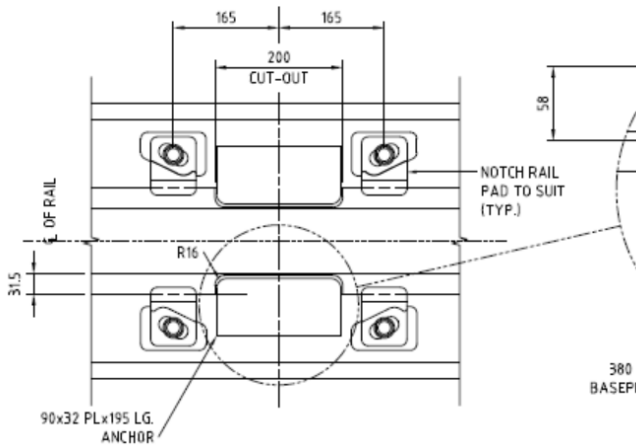

Figure 3: Example of a longitudinal restraint
- Longitudinal restraint - Longitudinal restraint is typically provided to the rail for the transfer of longitudinal loads and to restrict the rail from 'walking' for rails that are able to freely expand and contract due to thermal loads. For this type of system, a slot is machined out of the rail foot and a shear block restrains the rail at a designated location (Figure 3).